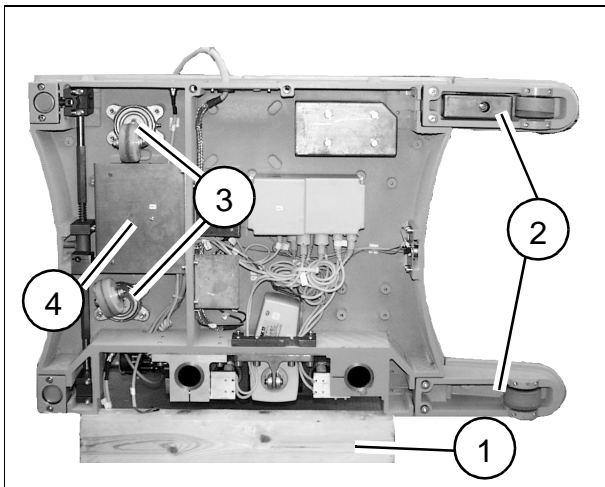

Fig. 1
- Place a wooden beam (50cm long, 10 x10 cm) under the table. Two persons must raise the table briefly for this (1/Fig. 1).
- Unscrew both extension arm feet (2/Fig. 1); the upper one weighs approx. 7.0 kg.
- Unscrew the two rollers (3/Fig. 1). They are no longer required.
- Unscrew the power supply unit Z10 (4/Fig. 1) (3 Allen screws 5mm).